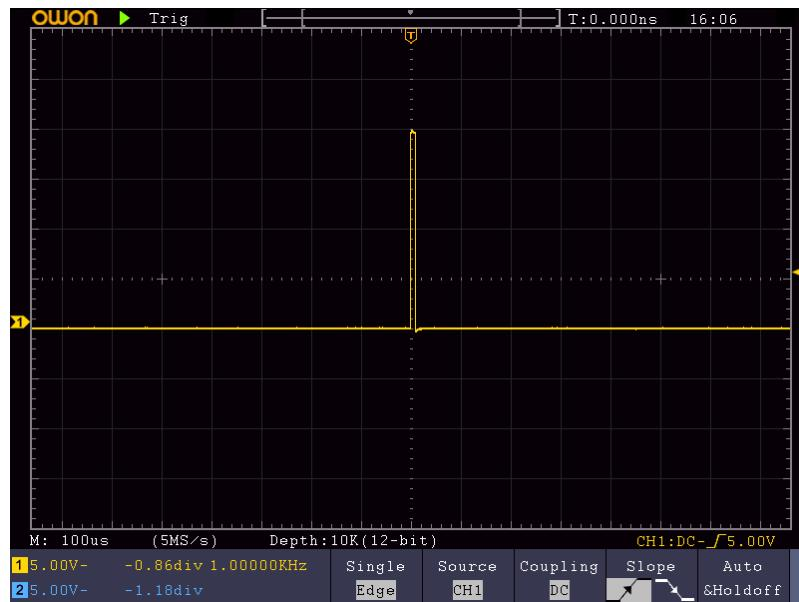

Figure 6-3 Capturing a Single Signal
- (2) Adjust the **Vertical Scale** and **Horizontal Scale** rotary controls to set up a proper vertical and horizontal ranges for the signal to be observed.
- (3) Push the **Acquire** button to display the Acquire menu.
- (4) Select **Acq Mode** in the bottom menu. Select **Peak Detect** in the right menu.
- (5) Push the **Trigger Menu** button to display the Trigger menu.
- (6) Select the first menu item in the bottom menu. Select **Single** in the right menu.
- (7) In the left menu, select **Edge** as the mode.
- (8) Select **Source** in the bottom menu. Select **CH1** in the right menu.
- (9) Select **Coupling** in the bottom menu. Select **DC** in the right menu.
- (10) In the bottom menu, select **Slope** as  (rising).
- (11) Turn the **Trigger Level** rotary control and adjust the trigger level to the roughly 50% of the signal to be measured.
- (12) Check the Trigger State Indicator on the top of the screen, if it is not Ready, push down the **Run/Stop** button and start acquiring, wait for trigger to happen. If a signal reaches to the set trigger level, one sampling will be made and then displayed in the screen. By using this approach, a random pulse can be captured easily. For instance, if we want to find a burst burr of high amplitude, set the trigger level to a slightly higher value of the average signal level, push the **Run/Stop** button and wait a trigger. Once there is a burr occurring, the instrument will trigger automatically and record the waveform during the period around the trigger time. By turning the **Horizontal Position** rotary control in the horizontal control area in the panel, you can change the horizontal triggering position to obtain the negative delay, making an easy observation of the waveform before the burr occurs (see *Figure 6-3*).